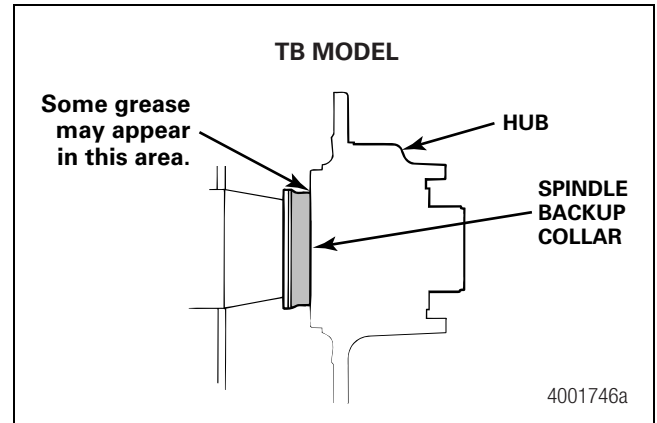

Figure 2.8
- On the TB model, when the hub is installed, a small bead of grease may appear at the spindle backup collar-to-hub joint. This is normal and does not indicate a seal leak. Figure 2.8.